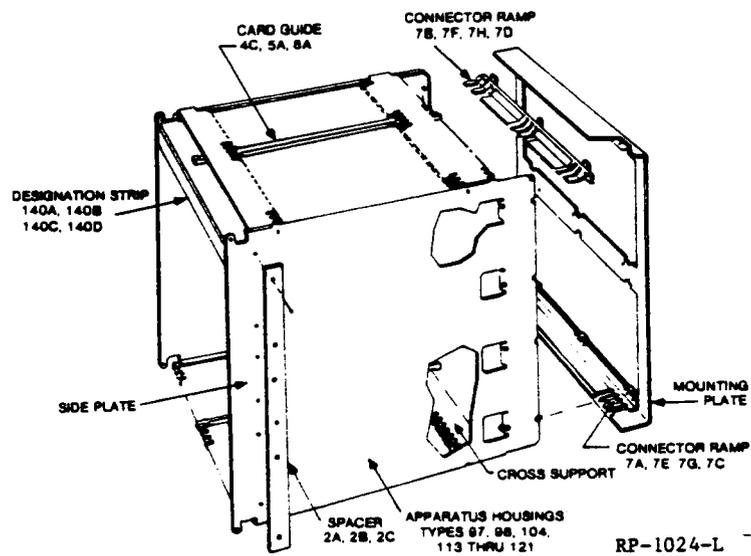

FIG. 7 APPARATUS MOUNTING AND ASSOCIATED HARDWARE (PAR. 2.2.2.2 and 2.3.4)
2.2.2.2 Apparatus Mountings - The BELLPAC apparatus mountings attach to the mounting plate from the front side of the frame. This allows installation and removal of the apparatus mounting from the backplane to facilitate backplane compliant pin repair and field changes (see Figure 7).
2.3.4.1 127 type apparatus mountings are used to retain 982 and 963N type connectors on the wiring side of the backplane. These apparatus mountings should not be confused with those used for mounting circuit packs (sometimes referred to as apparatus housings (see Figure 7)). These apparatus mountings are similar in function to the 82A and 82B apparatus mounts used in 1A technology for retaining the 942 paddleboard connectors. The apparatus mounting consists of a plastic guide block, two lock springs and two retainer springs (see Figure 12 and 13).